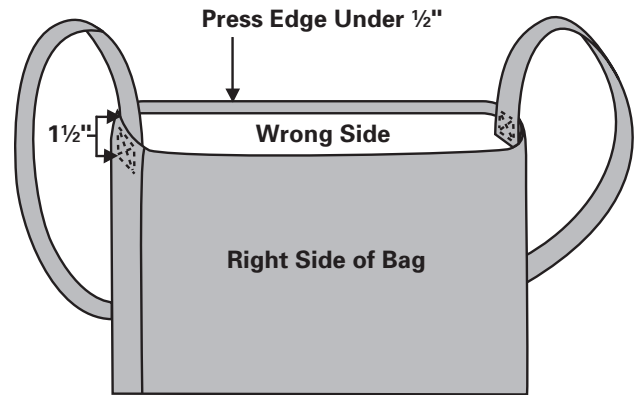

Fig. 7-6
- Press $\frac{1}{2}$ inch (1.3 cm) to the wrong side on the bag upper edge. Pin one end of the webbing to the inside of the bag at each side seam, overlapping the edge $1\frac{1}{2}$ inches (3.8 cm). Sew the strap ends to the bag, stitching the strap overlap in a square along both sides and across the strap. (Fig. 7-6)